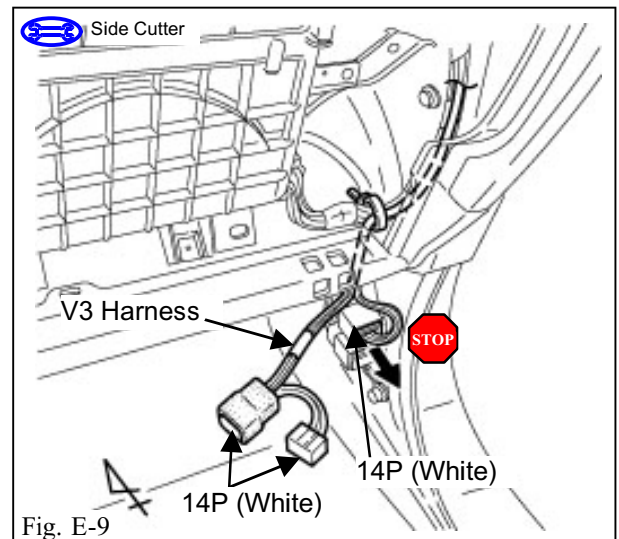

Fig. E-9
12. Locate and disconnect the white 14P connector from the passenger side cowl area. (Fig. E-9)